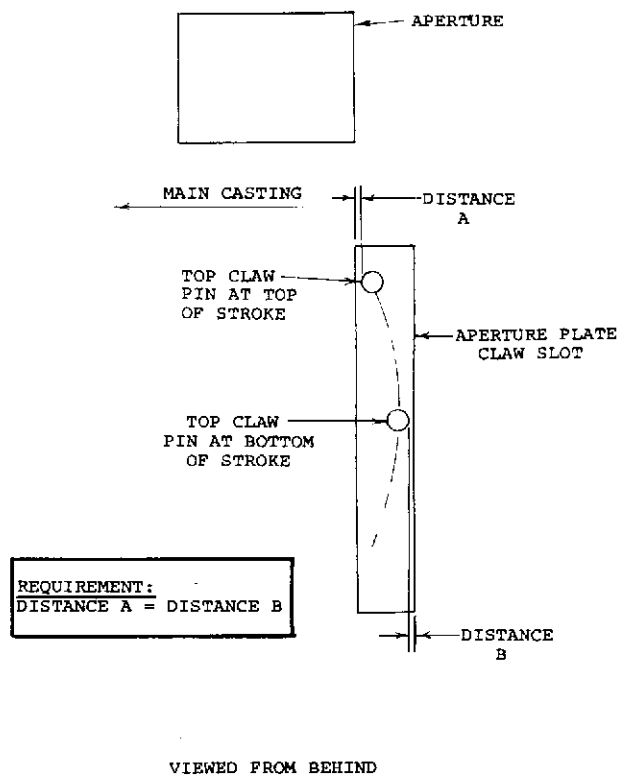
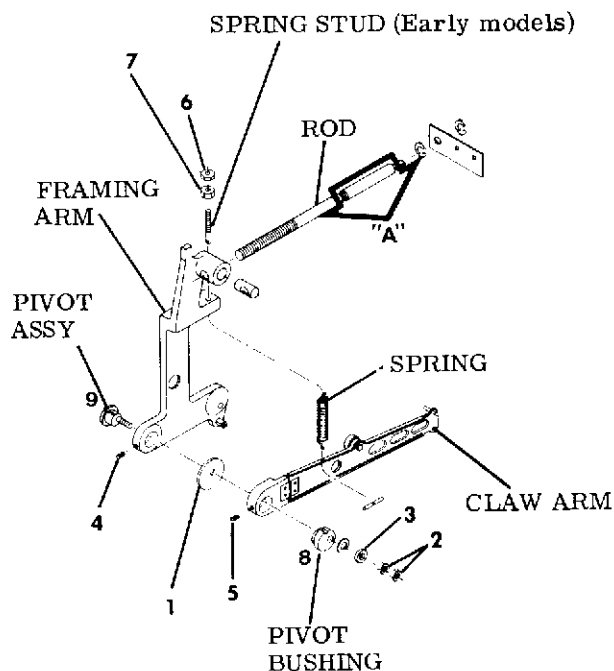
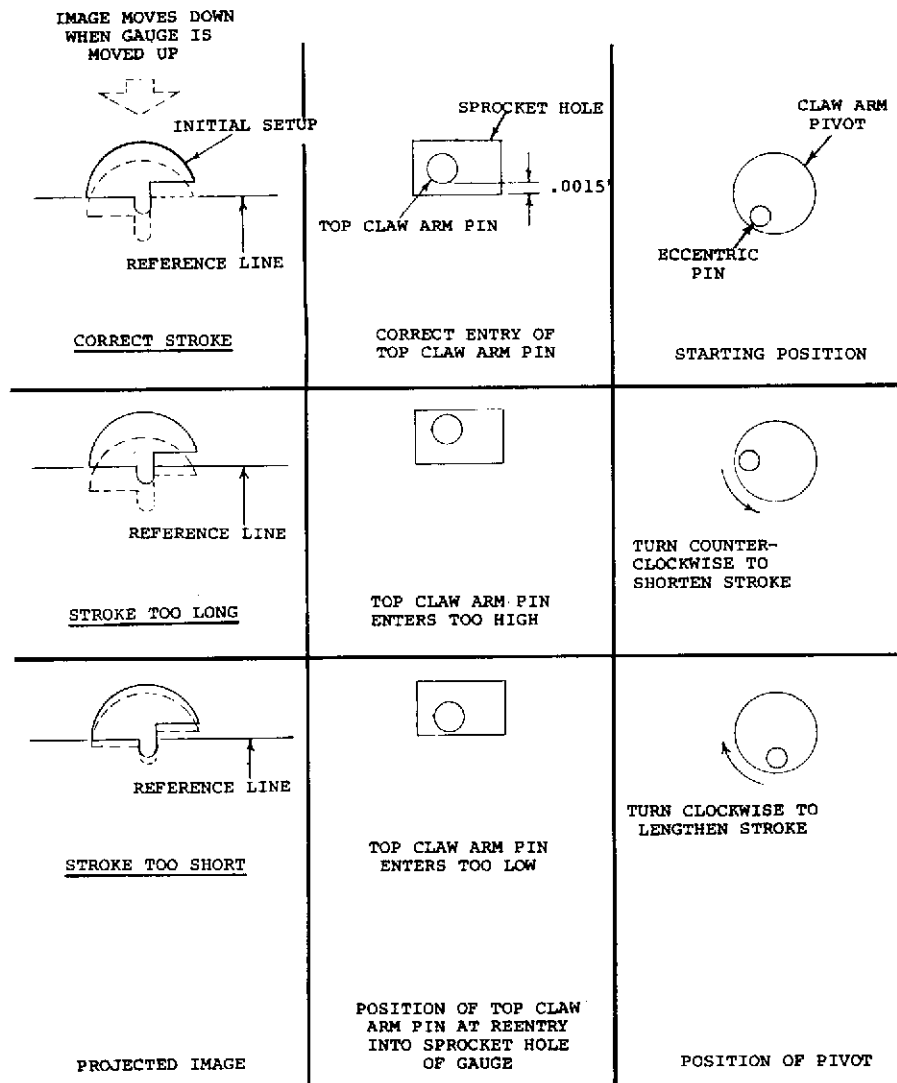

Figure 4-7. SIDE CLEARANCE
Figure 4-8. CLAW ARM
Figure 4-11. CLAW PULL DOWN STROKE ADJUSTMENT
Before attempting any adjustments, manually rotate the inching knob to make sure the Claw Arm Pins do not strike the sides of the Aperture Plate Claw Slot. At the top of the Claw Arm Stroke, the Top Claw Arm Pin will be nearer the inside edge of the Aperture Plate Slot (Figure 4-7). At the bottom of its travel, this Pin will be nearer to the outside edge of the Aperture Plate Slot. Loosen Screw (5) and adjust Bushing (8) (Figure 4-8) so these two distances are equal. (Removing Lamphouse Cover and viewing Pins from behind the Aperture Plate aids in this adjustment.)
- m. Tighten Screws (1) and (2) to 140-inch/ounces of torque (very tight) and replace Screw (3) and tighten securely.
2. Claw Pull Down Stroke and Side Clearance (Figures 4-7 / 4-11) These Two Adjustments are interdependent and must be adjusted at the same time. If either one is adjusted, the other must be checked and adjusted as necessary until requirements for both can be met.
A good starting position for the Pivot (9) (Figure 4-8) places its Eccentric Pin at about 7 O'Clock when viewed from front of Projector (See Figure 4-11). The notch in Bushing (8) (Figure 4-8) should be slightly below the notch in Pivot (9) so an imaginary line drawn across the top of Bushing notch lines up with bottom of Pivot notch.
holes of film. When Framing is correct, the Top Claw Arm Pin should be the same distance from the inside edge of the sprocket hole at the top of its stroke as it is from the outside edge of the sprocket hole at the bottom of its stroke (Figure 4-7). Loosen Screw (5) and adjust Bushing (8) (Figure 4-8) so these two distances are equal. Remove film from Projector after proper Framing and Side Clearance are established.
- h. Adjust by placing Shuttle Cam Adjusting Tool (ST-5884) on Claw Arm Pivot (9) (Figure 4-8), loosening Screws (4) and (5) and rotating Pivot (9) and Bushing (8) the same amount in the same direction simultaneously. Turn counterclockwise (as viewed from front of projector) to shorten stroke and clockwise to lengthen stroke. (Figure 4-11)
The Top Claw Arm Pin should be the same distance from the inside edge of the Gauge sprocket hole at the top of its stroke as it is from the outside edge of the Gauge sprocket hole at the bottom of its stroke (Figure 4-7).
Loosen Screw (5) and adjust Bushing (8) (Figure 4-8) So these two distances are equal.
3. Claw Pull Down Stroke and Side Clearance (Figures 4-7 thru 4-11)
A good starting position for the Pivot (9) (Figure 8) places its Eccentric Pin at about 7 O'Clock when viewed from front of Projector (See Figure 4-11). The notch
in Bushing (8) (Fig. 4-8) should be slightly below the notch in Pivot (9) so an imaginary line drawn across the top of Bushing notch lines up with bottom of Pivot notch.
Before attempting any adjustments, manually rotate the inching knob to make sure the Claw Arm Pins do not strike the sides of the Aperture Plate Claw Slot. At the top of the Claw Arm Stroke the Top Claw Arm Pin will be nearer the inside edge of the Aperture Plate Slot (Figure 4-7). At the bottom of its travel, this Pin will be nearer to the outside edge of the Aperture Plate Slot. Loosen Screw (5) and adjust Bushing (8) (Figure 4-8) so these two Distances are equal. (Removing Lamphouse Cover and viewing Pins from behind the Aperture Plate aids in this adjustment.)
- a. Thread an old film in the Projector (do not use a good film for this adjustment) and adjust Framing Knob to eliminate any frame lines at top or bottom of projected image with the Projector running in Forward. If excessive noise results when framing knob is moved, stop machine and check location of Claw Arm Pins in sprocket holes of film. When framing is correct, the Top Claw Arm Pin should be the same distance from the inside edge of the sprocket hole at the top of its stroke as it is from the outside edge of the sprocket hole at the bottom of its stroke (Figure 4-7). Loosen Screw (5) and adjust Bushing (8) (Figure 4-8) so these two distances are equal. Remove film from Projector after proper Framing and Side Clearance are established.
- k. Adjust by placing Shuttle Cam Adjusting Tool (ST-5884) on Claw Arm Pivot (9) (Figure 4-8), loosening Screws (4) and (5) and rotating Pivot (9) and Bushing (8) the same amount in the same direction simultaneously. Turn counter-clockwise (as viewed from front of projector) to shorten stroke
and clockwise to lengthen stroke. (Figure 4-11).
The Top Claw Arm Pin should be the same distance from the inside edge of the Gauge sprocket hole at the top of its stroke as it is from the outside edge of the Gauge sprocket hole at the bottom of its stroke (Figure 4-7). Loosen Screw (5) and adjust Bushing (8) (Figure 4-8) So these two distances are equal.